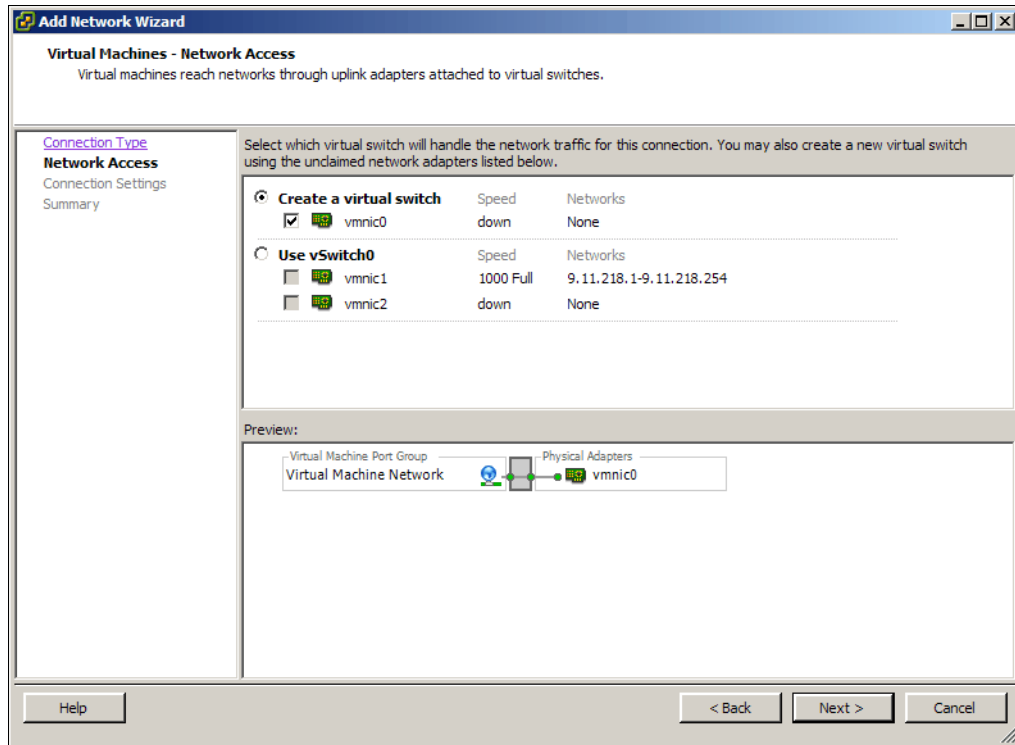

Figure 22-70 Selecting Network Access
3. Pick one of the remaining LAN adapters (in this case vmnic0) as shown in Figure 22-70 on page 702. Click **Next**.